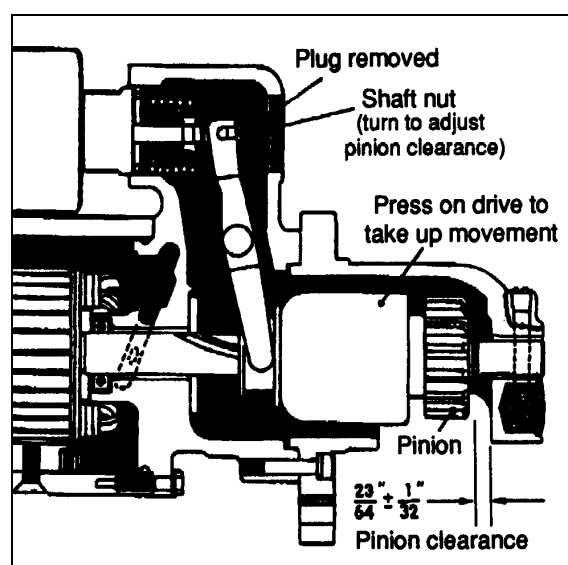

FIGURE 36: PINION CLEARANCE
Pinion clearance should be checked after reassembly of motor to ensure the clearance is within specifications. To check pinion clearance (starter off engine), first disconnect the motor field connector from the solenoid motor terminal. Connect 24 volt battery with the positive battery lead to the solenoid switch terminal (5), and the negative battery lead to the grounded (G) solenoid terminal. Momentarily flash a jumper lead from the solenoid motor terminal to the grounded (G) solenoid terminal. The pinion gear will now shift into cranking position and remain that way until the battery is disconnected. Push the pinion or drive back towards the commutator end to eliminate slack movement. Measure the distance between pinion and pinion stop. This should be $23/64" \pm 1/32"$ (9,5 mm \pm 0,79 mm). Pinion clearance is adjusted to these limits by turning the solenoid shaft nut after removing access plug in shift housing. See figure 36.